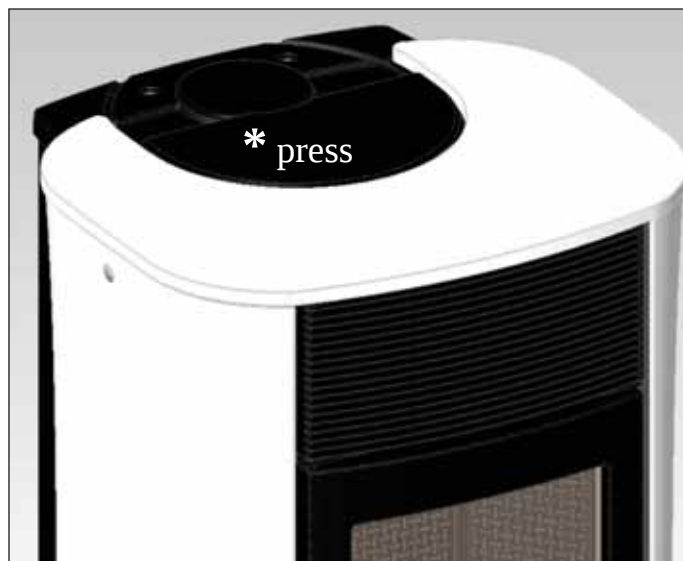

fig. 1
- Fit the pipe cover fixing bracket (A - fig. 1) using the screws supplied, to the two plating closers (A1 - fig. 1) at the holes formed.